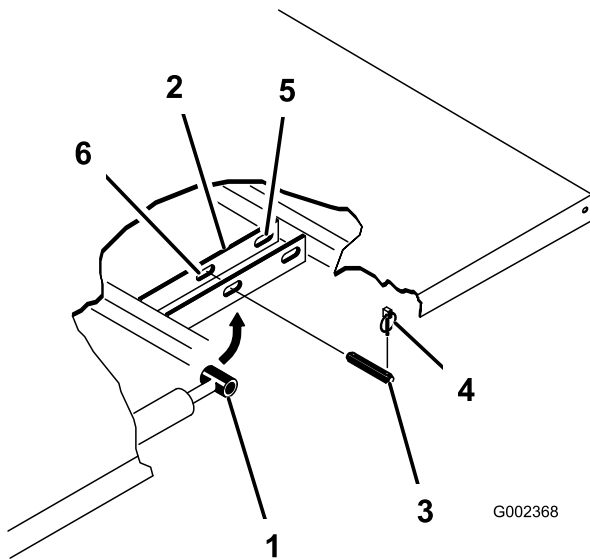

Figure 3
2. Remove the lynch pins from the outer ends of the cylinder rod clevis pins (Figure 3).